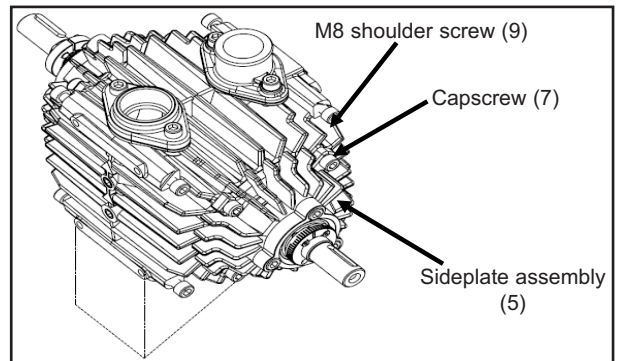

Figure 27
5. Install second sideplate assembly as instructed in step 2 above. See figure 27.